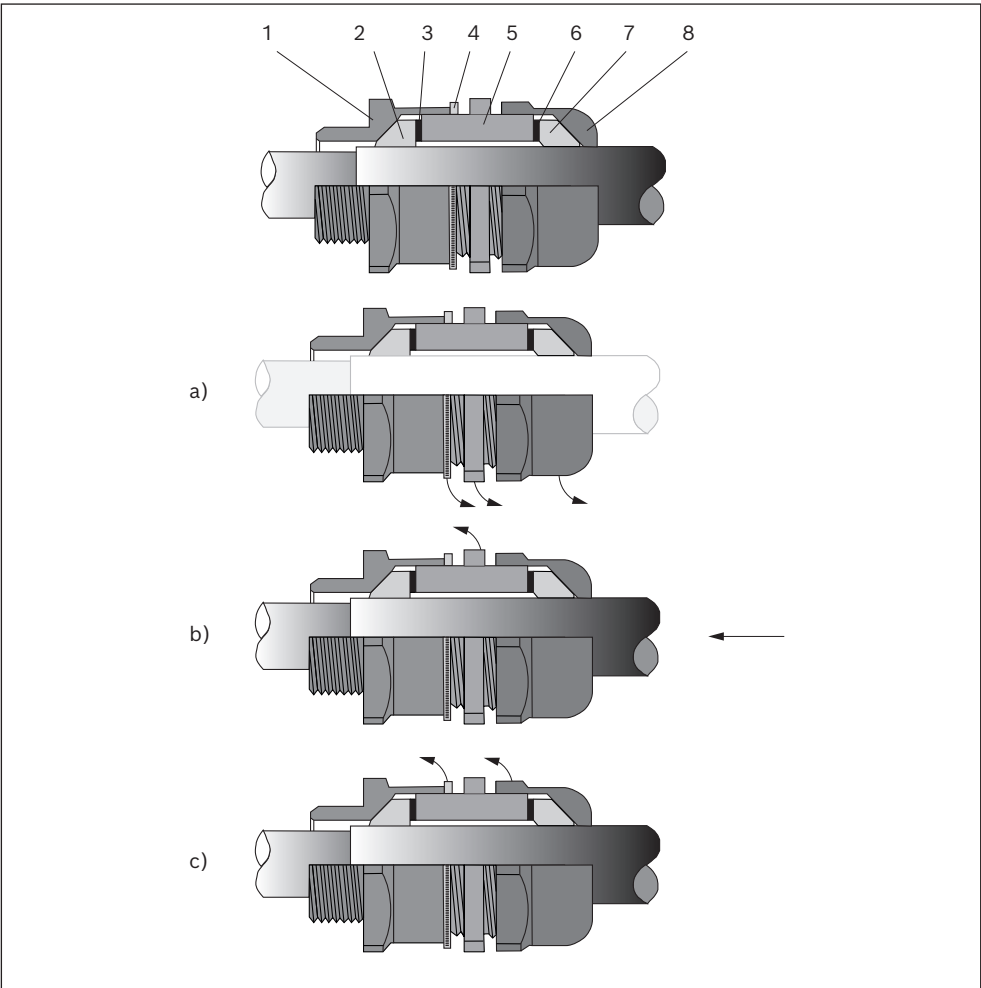

Fig. 5: Cable and line entry
4. Assemble the cable and line entry as displayed in figure 5 "Cable and line entry".